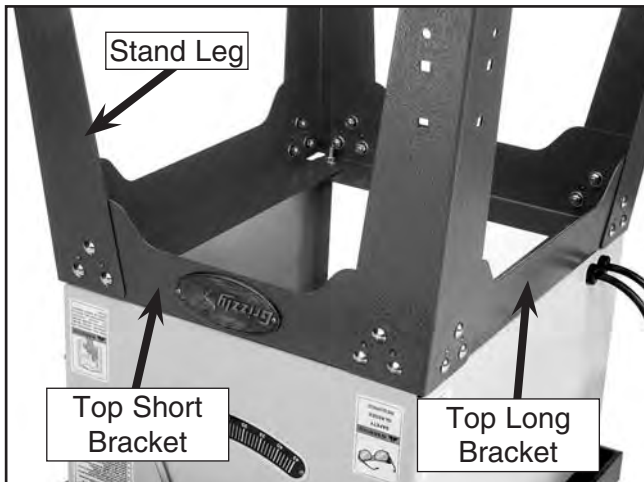

Figure 12. Top brackets and legs installed.
- Place the top long brackets on the inside of the legs and secure with 12 carriage bolts, 12 flat washers, 12 lock washers, and 12 hex nuts (**Figure 12**). The top long brackets should overlap the top short brackets.